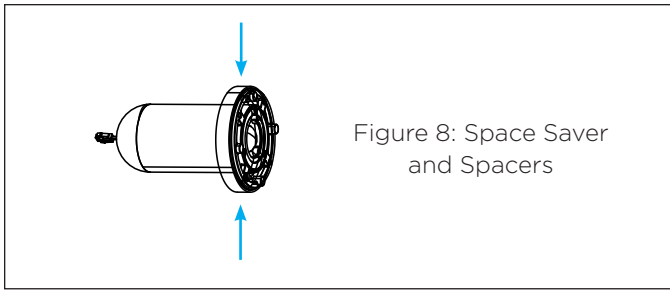
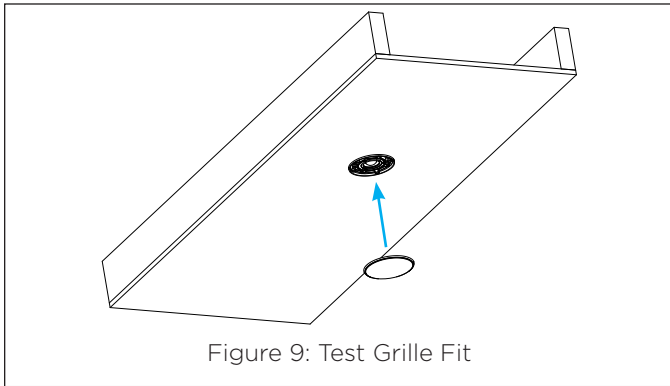

Figure 8: Space Saver and Spacers
Figure 9: Test Grille Fit
- Place the grille aligner around the speaker module and test fit the assembly in the enclosure opening by securing it with two screws (see Figure 8). Test the grille fit. If the grille will not stay on or if there is a gap between the installation surface and the grille, spacers and shims will need to be added or removed until the grille fit is perfect (see Figure 9).